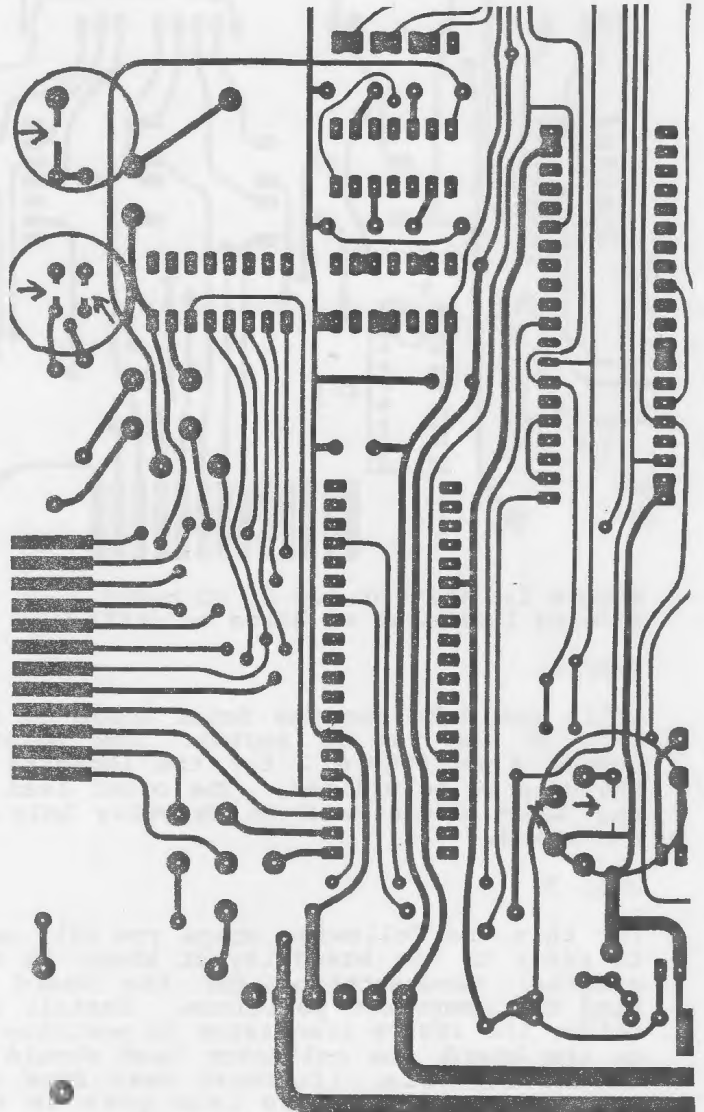

Figure 1. Part of back of PC board. Showing locations of land pattern cuts
Make four (4) cuts in the land pattern connections on the back of the board. A sharp knife or small grinding wheel is useful to break the land pattern. See figure 1 for the locations of these four cuts.